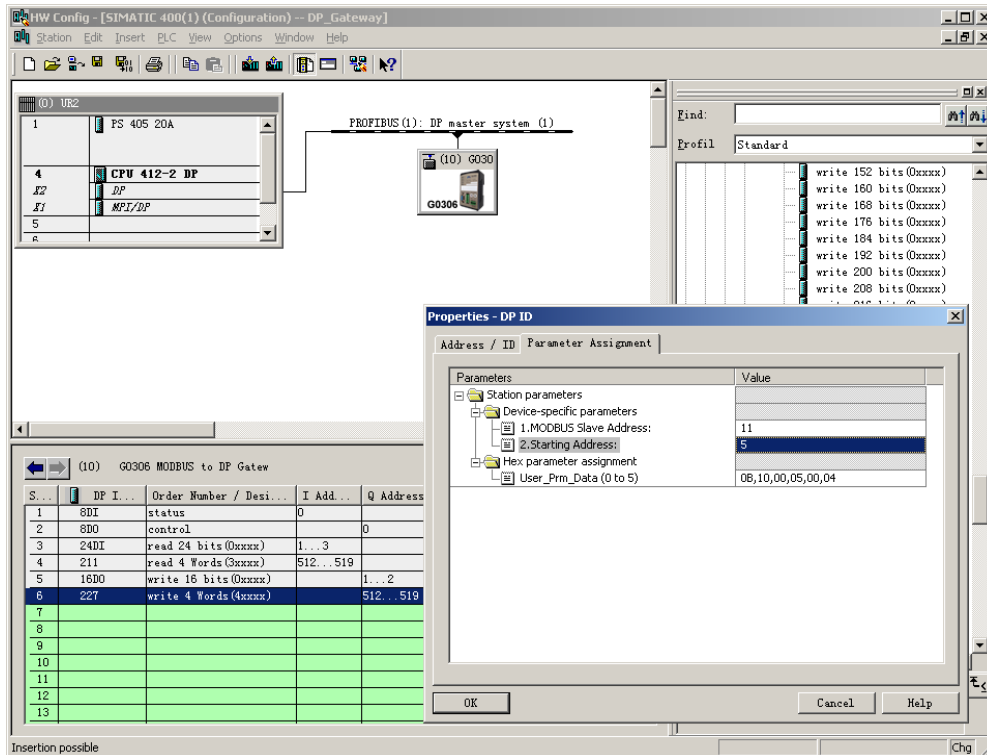

Figure 26 Configure User Parameters of “write 4 Words(4xxxx)” Module
b) Configure user parameters of “write 4 Words(4xxxx)” module, shown in Figure 26:
"1.MODBUS Slave Address: "⇒Type MODBUS slave address 11, shown in Figure 26.
"2.Starting Address:" ⇒Type starting address 00006 of register 0xxxx to be written, set address as 5⇒"OK", shown in Figure 26.